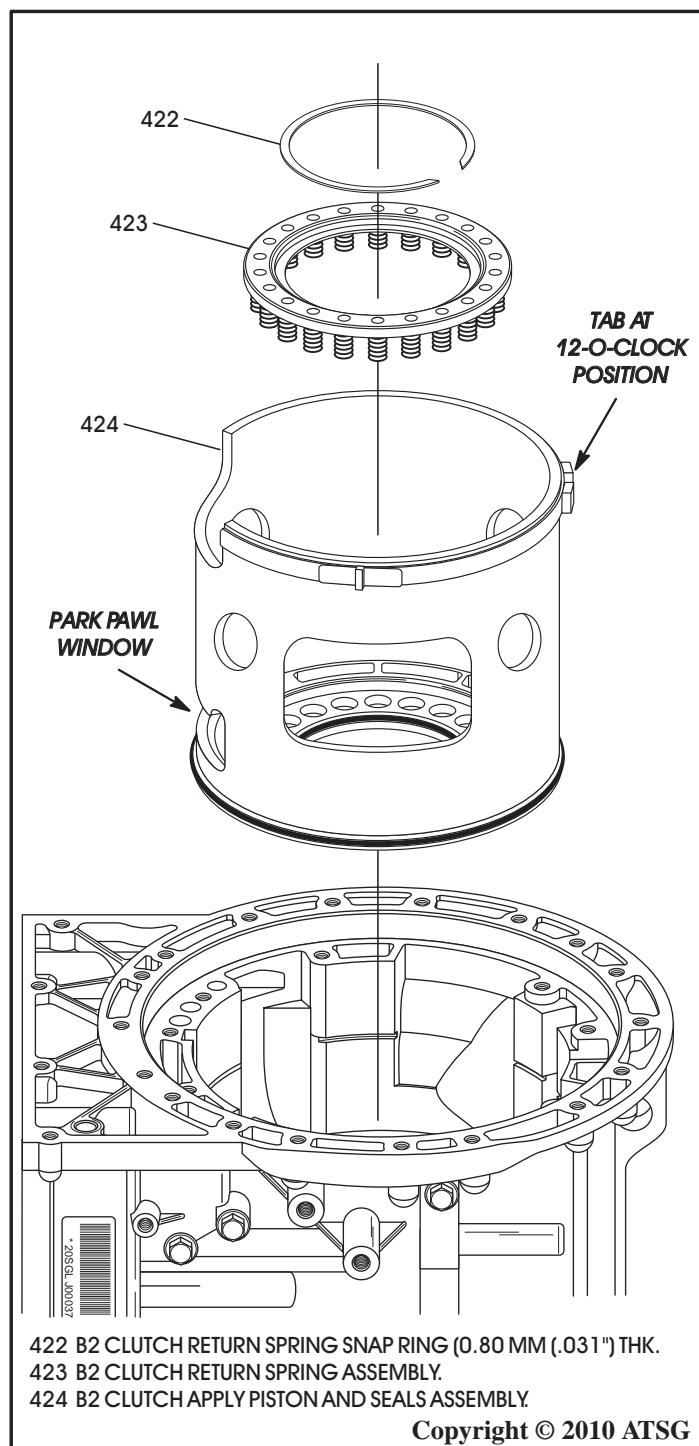

Figure 80
3. Install the B2 clutch apply piston into the case, as shown in Figure 80.
Note: Piston must be installed with large tab at the 12-O-Clock position and the park pawl window at 6-O-Clock, as shown in Figure 80.
4. Install the return spring assembly and snap ring, as shown in Figure 80.